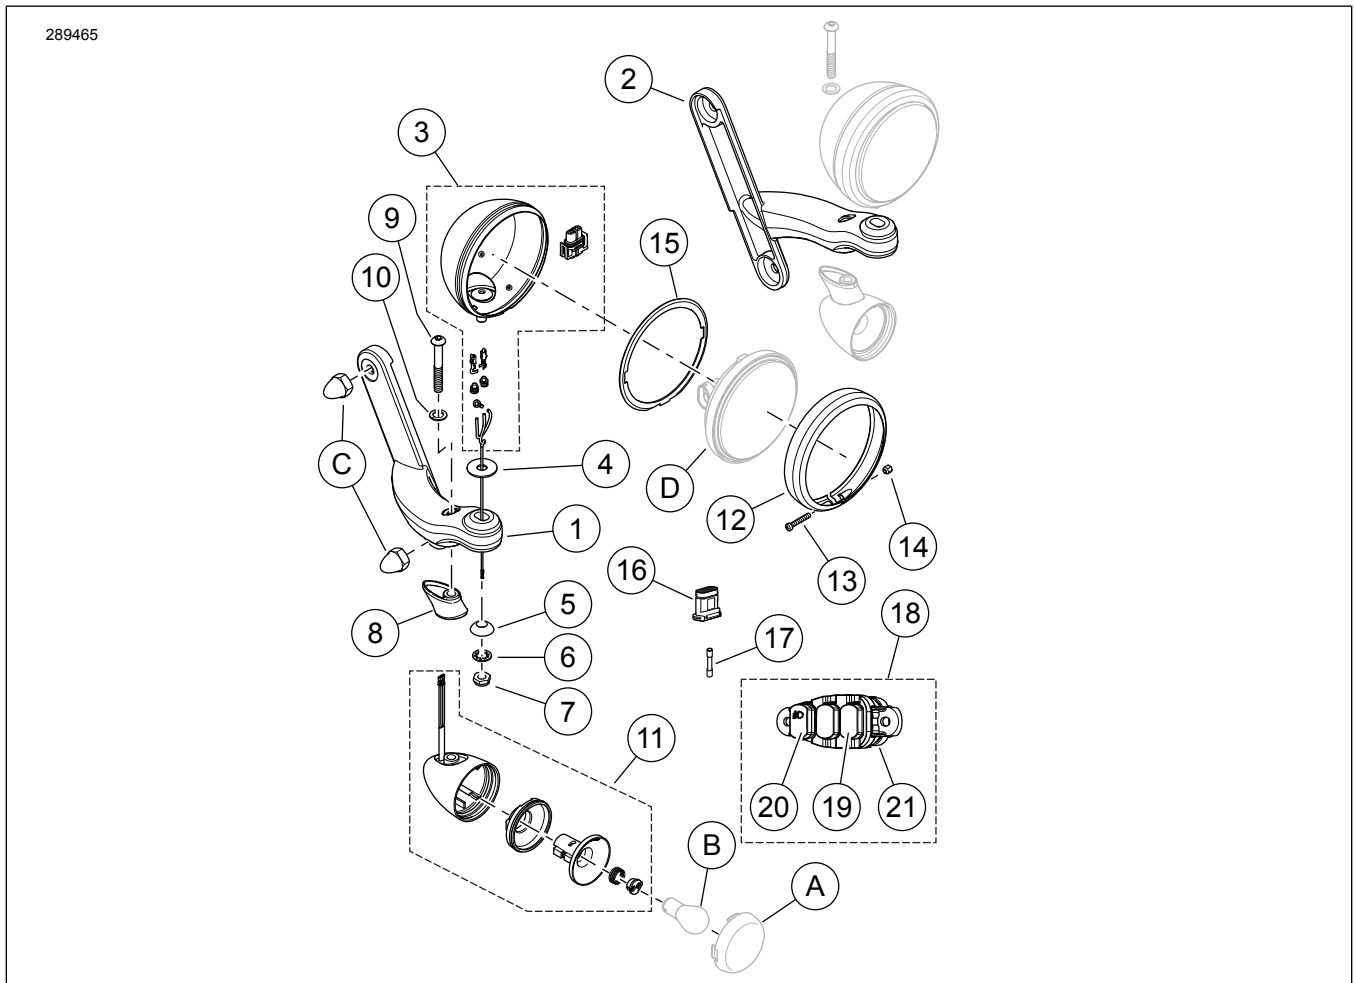
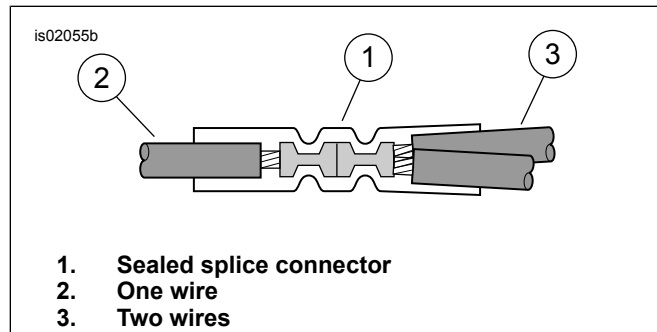

Figure 1. Kit Contents: Custom Auxiliary Forward Lighting Kits
Figure 4. Splice Configuration (One Into Two)
- a. See Figure 1. Remove and retain turn signal lenses (A), bulbs (B) and acorn nuts (C) for later assembly.
5. See Figure 1. Get a turn signal sub-assembly (11), turn signal stand off (8), hex socket head screw (9) and lockwasher (10) from kit.
1. See Figure 1. Insert terminals on ends of wires into cavities of a four-way socket housing (16) from kit:
2. **Black turn signal housings:** After wires have been secured in the socket housing (16), cut the black ground lead about 32 mm (1.25 in) from socket housing.
3. See Figure 4. Use a sealed splice connector (17) to splice black lead coming from four-way socket housing (16) to both black leads coming from black turn signal and auxiliary lamp housings.